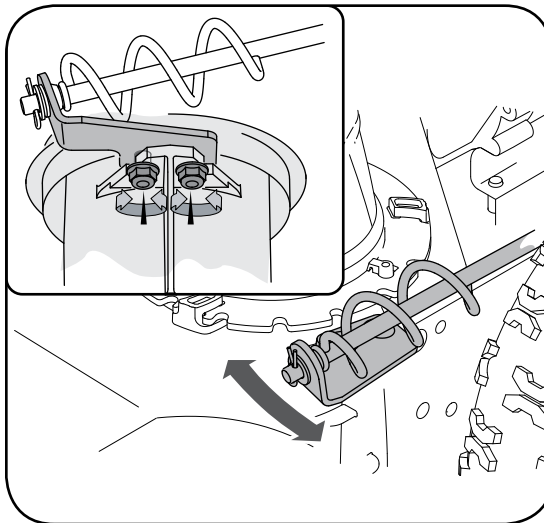

Figure 7
1. loosen the two nuts which secure the chute bracket and reposition it slightly. See Figure 7.